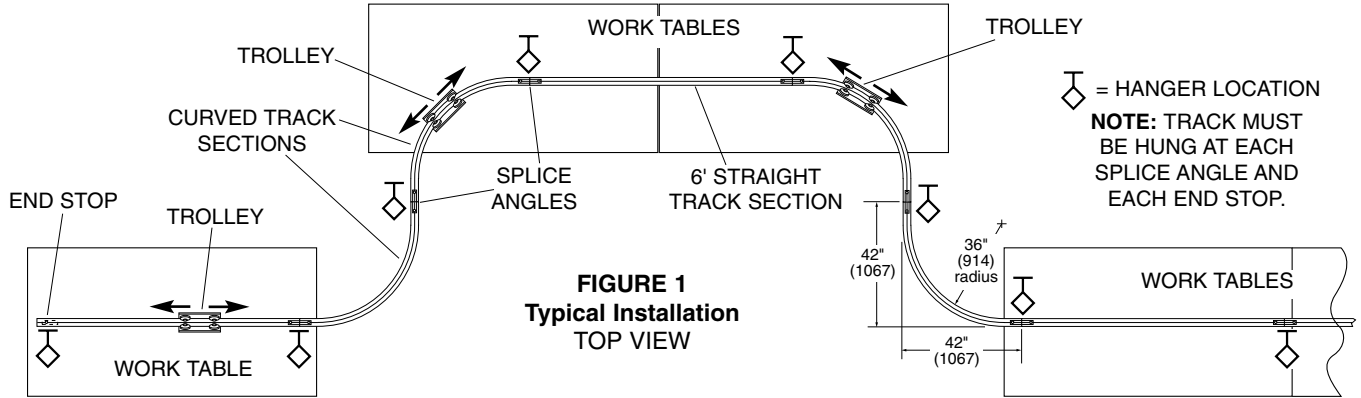
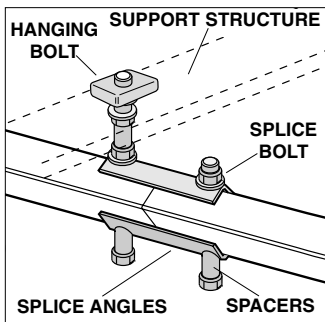

FIGURE 1
FIGURE 2
Splice angle kits join and align two track sections and provide a bolt for hanging track. End stop kits, which include a hanging bolt, are used at each end of the system. They provide for track hanging and also stop the trolleys. See Figure 1, above, and Figures 2 & 3, below.
STEP 1– Lay out track sections on floor beneath area where track is to be hung. All curved sections are 90° and have a 36"(914mm) radius but include a 6"(152mm) straight section making their overall length 42"(1067mm). Check to make sure there is hanging structure above each joint and at both ends of the system. See Figure 1.
STEP 2– Hang track, assembling as you go, using hanging bolts in splice angle kits or end stop kits. See Figures 2 and 3. To facilitate trolley installation, do not permanently install end stop or hang track at one end of system. Temporarily support end of track until after trolley installation. **NOTE:** If necessary to reach support structure, substitute longer 5/16-18 bolts or threaded rod for 3.5" long bolts provided.